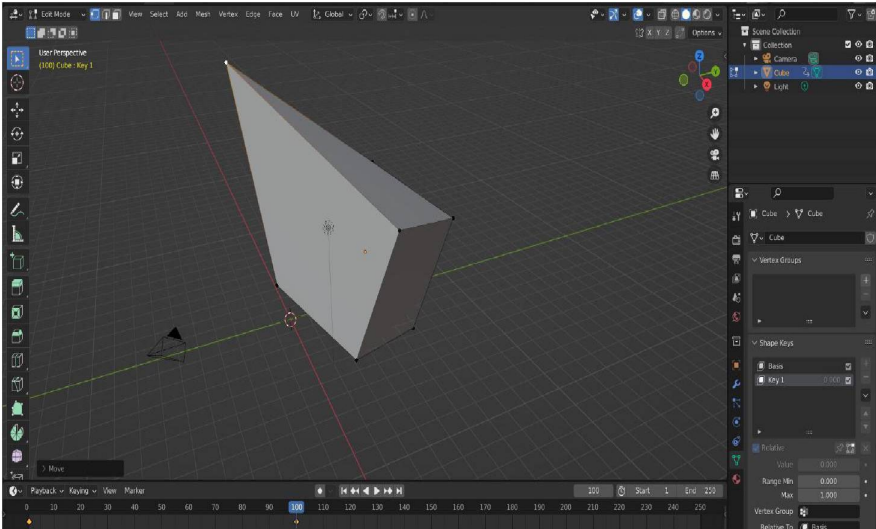

Figure 8.7: Making a change to the mesh that will be recorded to the Shape Key 1
4. Select any of the vertices, and change its position, as shown in *Figure 8.7*: